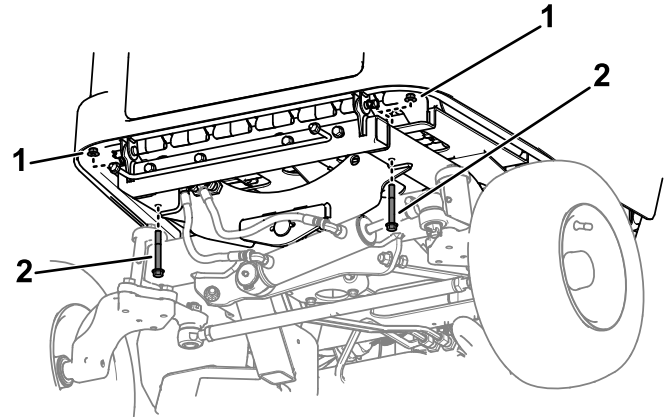

Figure 11
2. Remove and retain the 2 bolts (3/8 x 2-3/4 inches) and 2 nuts (3/8 inch) that secure the rear battery tray to the frame (Figure 11).